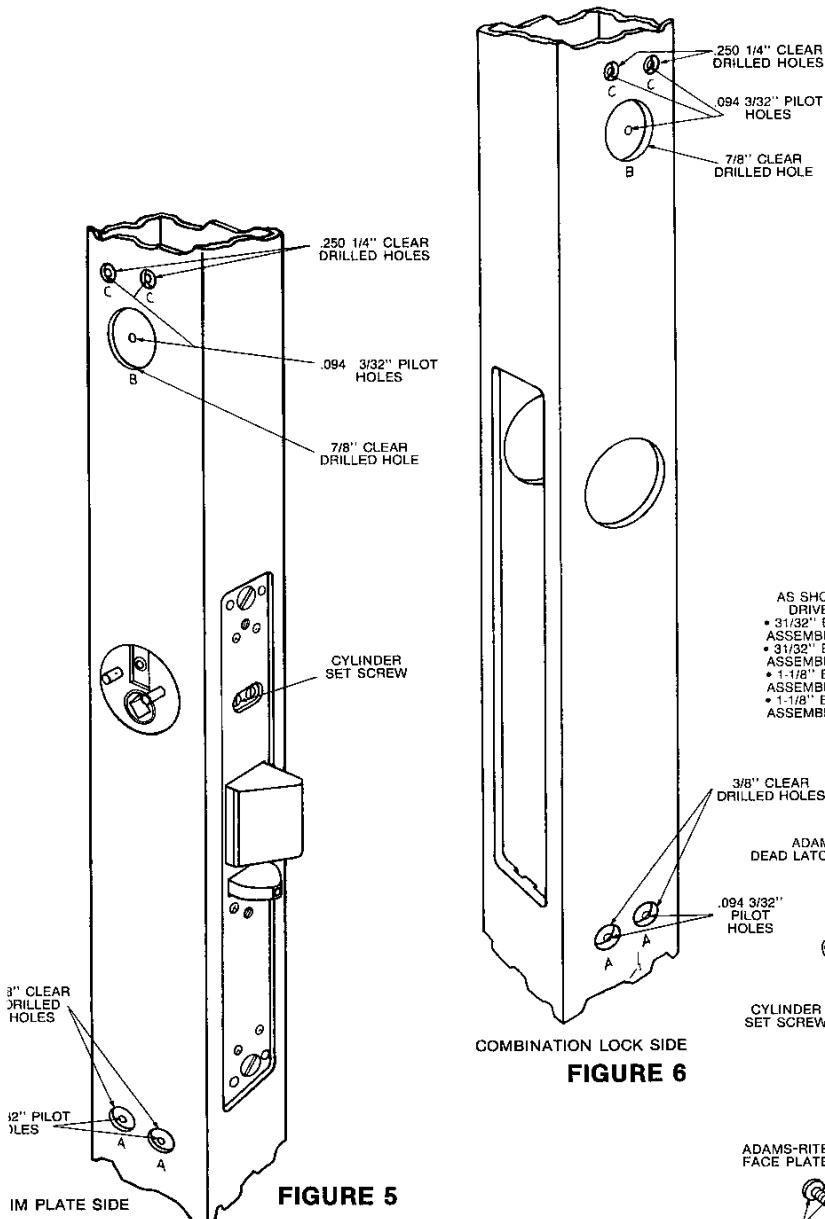

FIGURE 5
Step 12: (Figures 5 and 6)
Step 12. (Figures 5 and 6)
You are now ready to drill holes marked A, B and C on both sides of tile. Enlarge holes to sizes as follows: (See Fig. 5 and 6) Referencing the hole identification on figures 5 and 6, enlarge 2 holes marked A to a .375 diameter (3/8") drill bit. Enlarge 1 hole marked B to a .875 diameter (7/8") hole saw. Enlarge 2 holes marked C to a .250 diameter (1/4") drill bit. Make sure that all holes are deburred prior to hardware assembly.